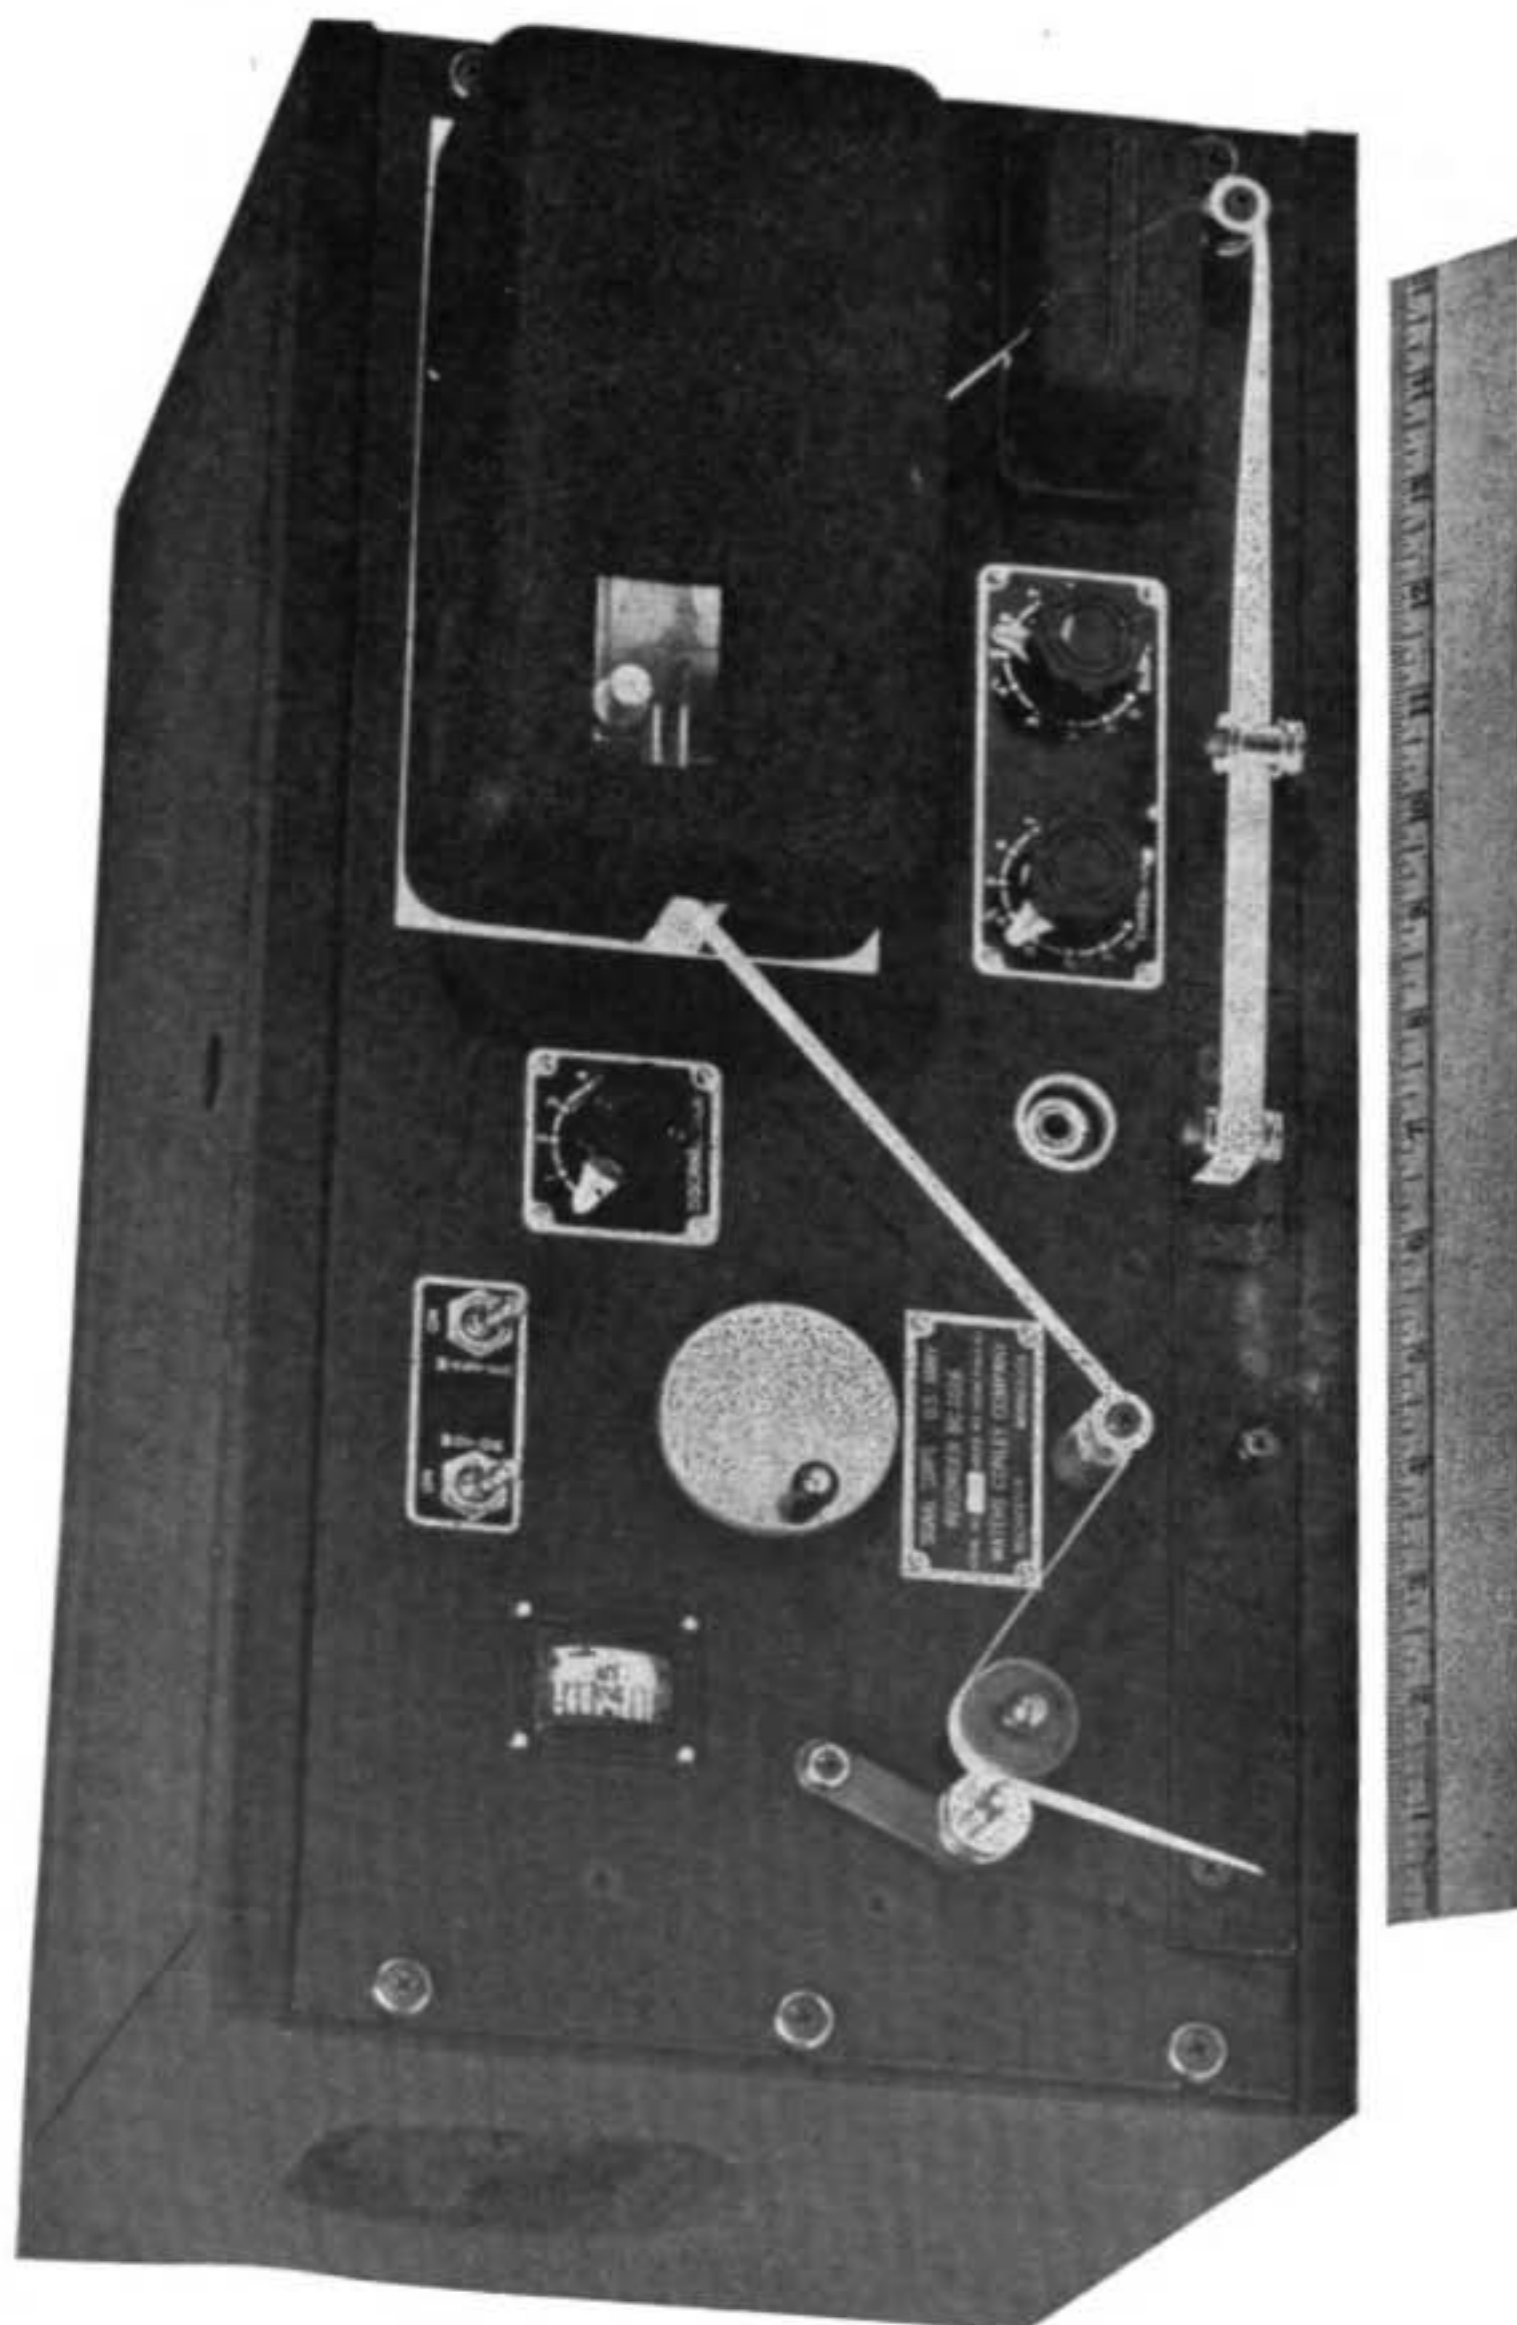

Figure 1—Recorder BC-1016.
1. **GENERAL.**—Recorder BC-1016 (FIG. 1) is designed for ink recording of standard code signals at speeds up to 400 words per minute on $\frac{3}{8}$ -inch paper tape. The input of the recorder may be connected to a telephone line transmitting radio signals or directly to the output circuit of a radio receiver. The recorder is a self-contained unit requiring only connection to the power supply line and a source of signal.
a. *Cabinet Mounting.*—Recorder BC-1016 is supplied mounted in a cabinet as illustrated in FIG. 1.